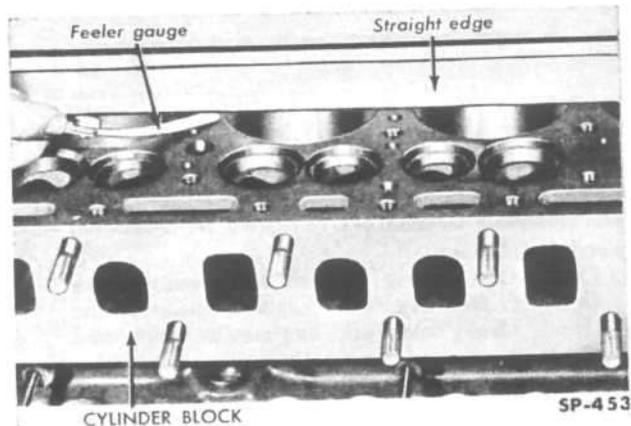

FIG. 33—CHECKING CYLINDER BLOCK FOR DISTORTION
- a. Examine all machined surfaces of the cylinder block for burrs and scores. Check cylinder block distortion by placing a straight edge along the length of the cylinder head surface of the block. With a feeler gauge check for clearance between the straight edge and the block, particularly between adjacent cylinders (Fig. 33).